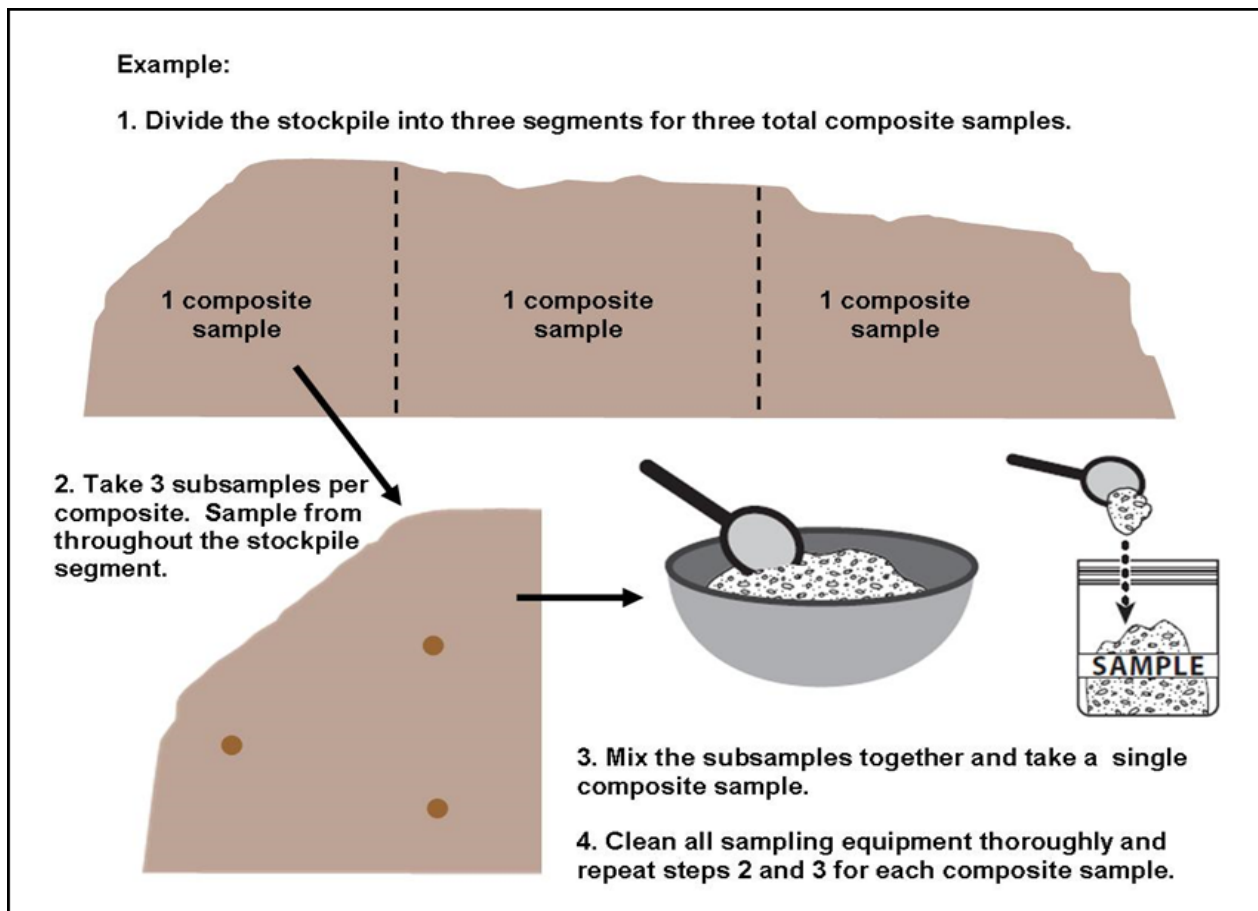

Figure 8: Imported soil sampling process (similar to stockpile sampling).
2. Check the number of composites needed and divide your stockpile into that many sections. Plan to take one composite per segment, to have a good distribution throughout the stockpile (Figure 8).
Use Table 11 from Chapter 8 to determine the appropriate number of composite samples from each stockpile of the imported soil source. Each composite should have three subsamples (Figure 8).